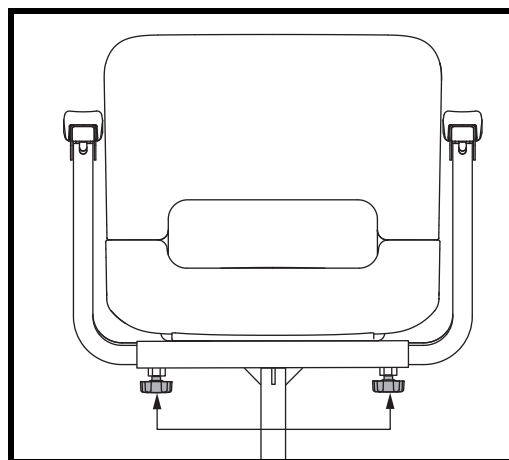

Figure 11. Armrest Width Adjustments
1. Loosen the armrest adjustment knobs. **See figure 11.**